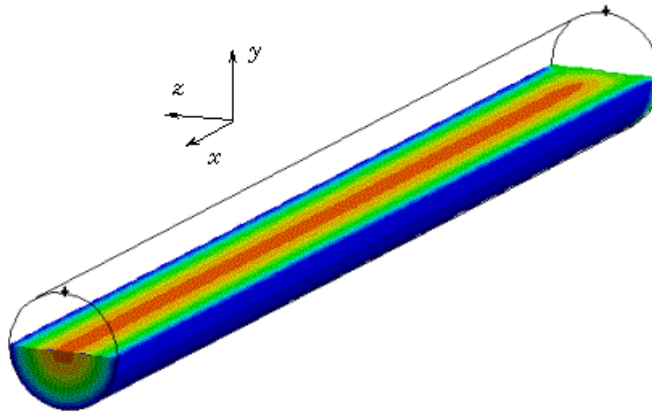

Figure 9.5.8: Velocity Contours on a Plane, Halfspace (-) and (0)
- the internal volume of the pipe (see Figure 9.5.8).